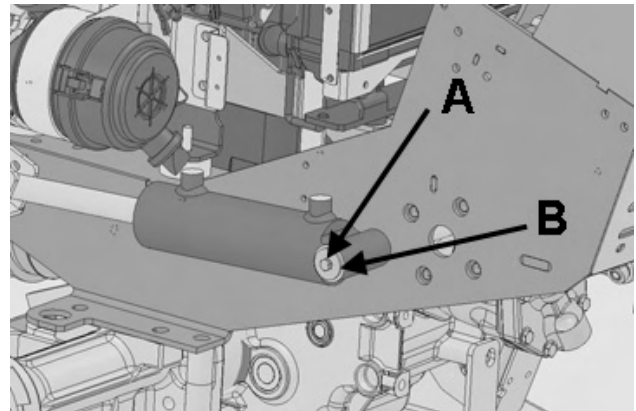

Figure 1
1. Remove the existing bolt **A** and washer **B** from each side of the Front Cylinder Shaft. Retain hardware to use later in these instructions. Remove the cylinder shaft and keep for use of machine without the front fenders. Retain the washers and the wave spring for assembly in Step 2. **(Figure 1 & 2)**